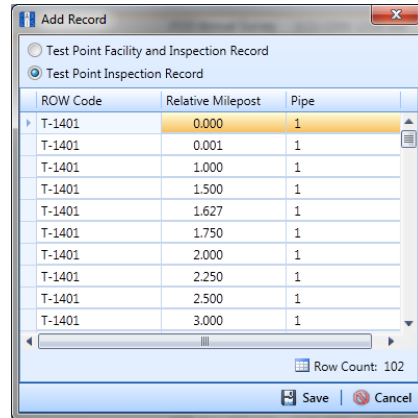

Figure 6-10. Add Record
- 5 Click **Add** to open the *Add Record* dialog box (Figure 6-10, page 173).